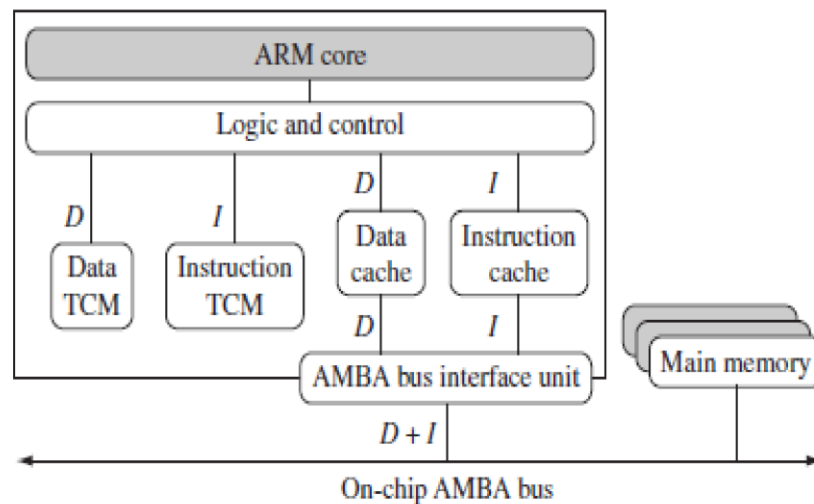

Figure 3: combining both technologies
- By combining both technologies, ARM processors can behave both improved performance and predictable real-time response. The following diagram shows an example of core with a combination of caches and TCMs as shown in figure 3